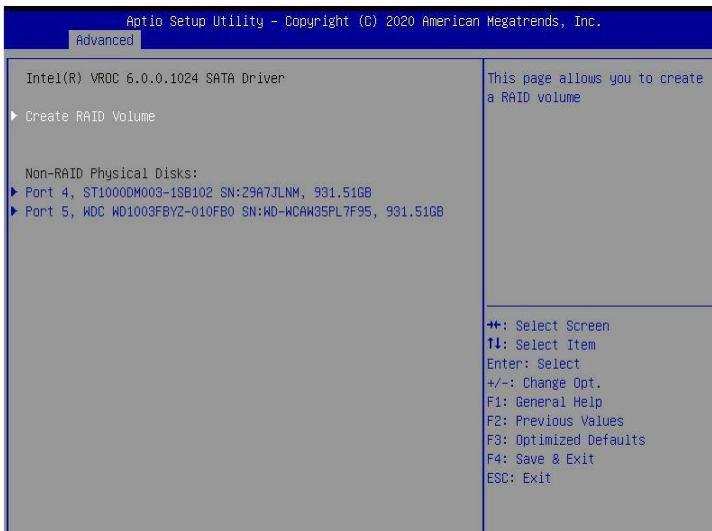

Figure 6-4
a) Select Create RAID Volume and press enter. Figure 6-4
❖ Figure 6-4 Create RAID